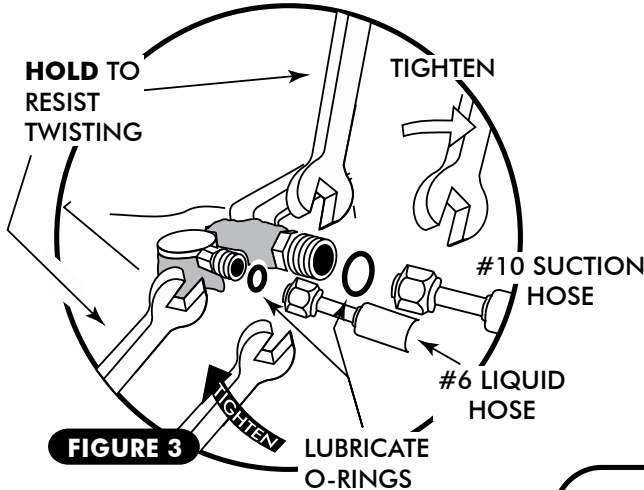

FIGURE 3
19. AFTER CRIMPING HOSES, LOCATE THE #6 A/C HOSE WITH THE STRAIGHT FITTING. LUBRICATE A #6 A/C O-RING AND THE THREADS ON THE FITTINGS, AND INSTALL ON THE EXPANSION VALVE. TIGHTEN CAREFULLY. REFER TO FIGURES 3 & 3A, PAGE 9.
20. LOCATE THE #10 A/C HOSE WITH THE STRAIGHT FITTING. LUBRICATE A #10 O-RING AND THE THREADS ON THE FITTING, AND INSTALL ON THE #10 LINE OF THE EVAPORATOR. TIGHTEN CAREFULLY. REFER TO FIGURES 3 & 3A, PAGE 9.
21. WRAP THE #10 FITTING WITH PRESS TAPE, AND COVER ALL EXPOSED METAL SURFACES. (DO NOT WRAP THE #6 HOSE, FITTING, OR THE HEATER CORE TUBES). SEE FIGURE 3, PAGE 9.